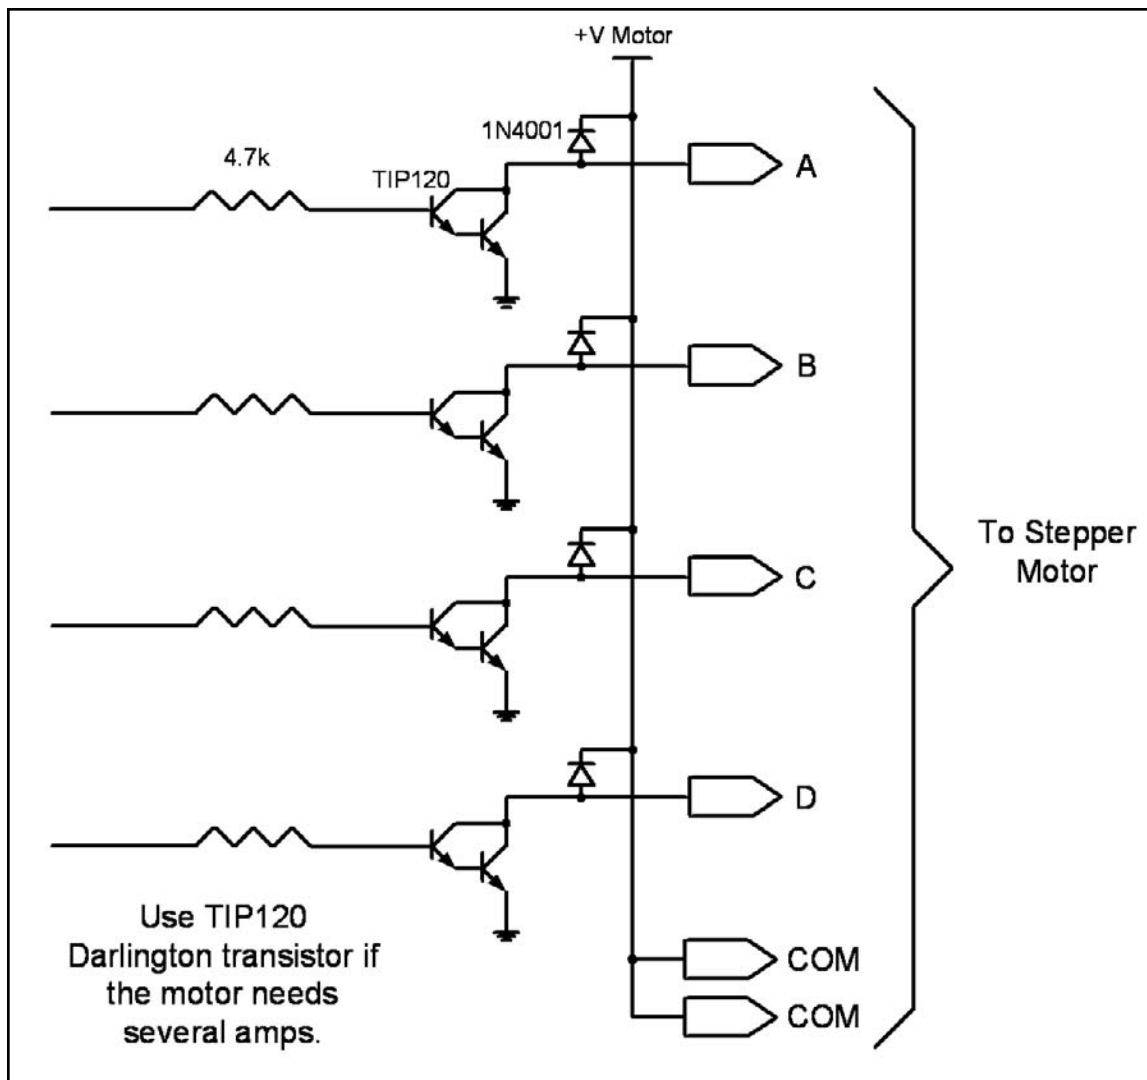

Figure 11. Using Transistors for Stepper Motor Driver
3. The four leads of the stator winding are controlled by four bits of the AVR port (PB0–PB3). Because the AVR lacks sufficient current to drive the stepper motor windings, we must use a driver such as the ULN2003 (or ULN2803) to energize the stator. Instead of the ULN2003, we could have used transistors as drivers, as shown in Figure 11. However, notice that if transistors are used as drivers, we must also use diodes to take care of inductive current generated when the coil is turned off. One reason that using the ULN2003 is preferable to the use of transistors as drivers is that the ULN2003 has an internal diode to take care of back EMF.
Unipolar stepper motors can be controlled using the basic interfacing shown in Figure 11, whereas the bipolar stepper requires H-Bridge circuitry. Bipolar stepper motors require a higher operational current than the unipolar; the advantage of this is a higher holding torque.
Figure 11 shows an interface to a unipolar stepper motor using transistors. Diodes are used to reduce the back EMF spike created when the coils are energized and de-energized, similar to the electromechanical relays discussed earlier. TIP transistors can be used to supply higher current to the motor. Table 8 lists the common industrial Darlington transistors. These transistors can accommodate higher voltages and currents.